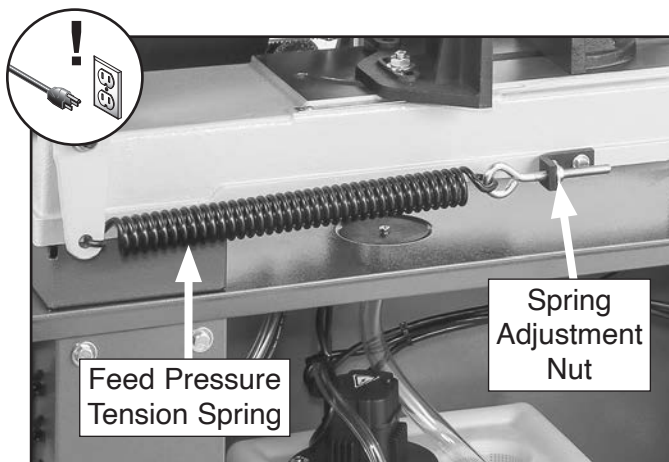

Figure 49. Spring adjustment components.
3. Adjust nut shown in **Figure 49** to adjust feed pressure tension spring. Nut should be tight enough to remove play but not enough to apply tension to spring.